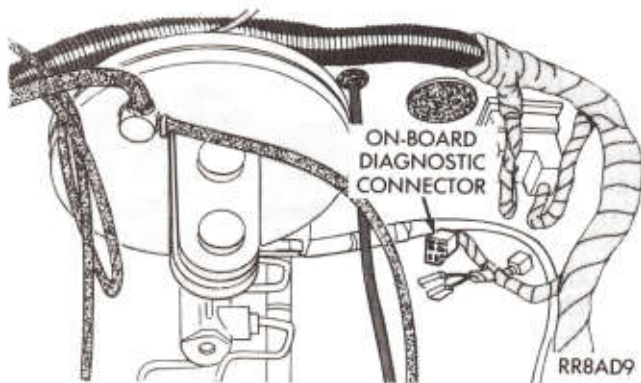

Fig. 3—On-Board Diagnostic Connector Location
- (1) Connect diagnostic tool to the OBD connector (Fig. 3).
- (2) Place read/hold switch on diagnostic tool in read position.
- (3) Turn ignition switch on-off-on-off-on within 5 seconds.
- (4) Record all codes, displaying of codes may be stopped by moving read/hold switch to hold position. Returning to read position will continue displaying of codes.